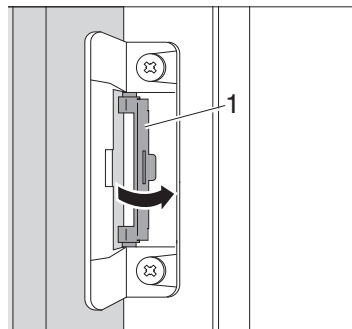

Fig. 336 Turning the latch back to the initial position
- Turn the latch (Fig. 336,1) back to the initial position.